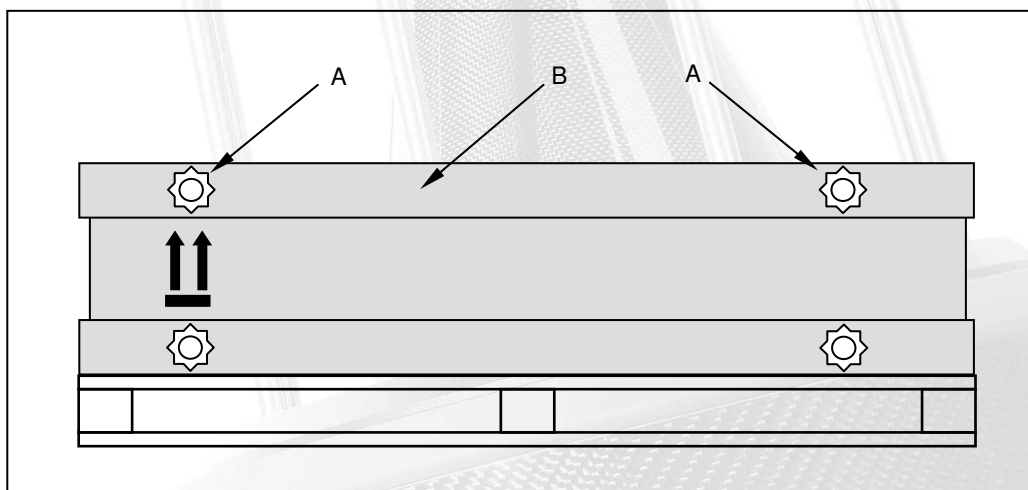

Figure 1. Borderland Mk IV Shipping Carton
The Borderland Mk IV is supplied with each loudspeaker packed in a separate shipping carton. This must be kept upright as shown in figure 1. Before opening the carton, please inspect it for damage. If you see any damage, please contact the supplying audio dealer immediately and provide them with a full description of the damage. Do not attempt to unpack the loudspeakers until you have spoken with the dealer and have been advised how to proceed.
1. Referring to figure 1, unscrew and remove the four securing screws A from the top cover of the carton B and then lift off the top cover. Do not remove the four screws from the carton lower tray.